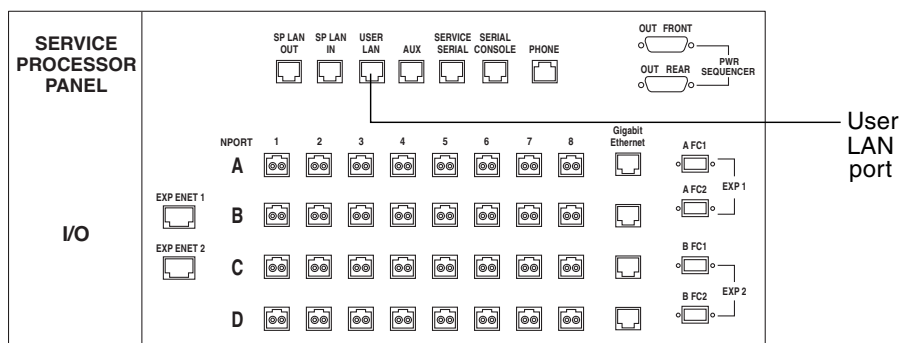

FIGURE 2-21 Local Area Network Connection
2. Connect the RJ-45 cable to the User LAN port on the back of the service panel (FIGURE 2-21).